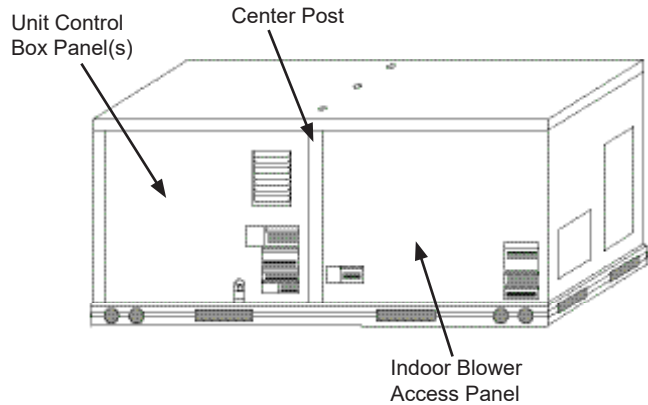

Fig. 6 - Typical Indoor Fan Motor Access Panel Locations
Step 9: Remove the indoor blower access panel and the panel(s) covering the unit control box. See Figure 6.
Step 22: Reinstall the unit's filter access door. See Figure 17. Reinstall the Indoor blower access panel. See Figure 6.
Step 23: After powering controller, program the Jade W7220 controller per the instructions to follow. See Table 8 for summarized controller set up instructions. After all settings have been made, re-install the unit control box panel. See Figure 6.